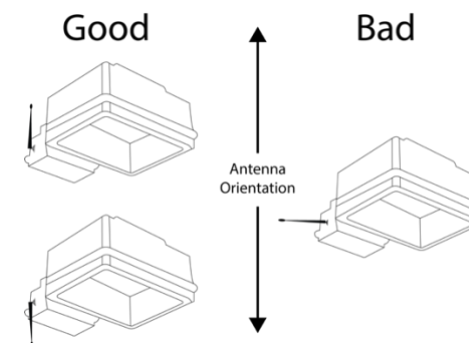

Figure 1 - Proper External Antenna Installation
- When installing the EMB-S2 into an enclosure, consideration of the external antenna position and interference is required in order to provide the most optimum wireless signal strength. Prior to permanently mounting it, make sure the antenna points directly upward or downward and is free of any metal objects within 12 in. of the antenna (Figure 1).